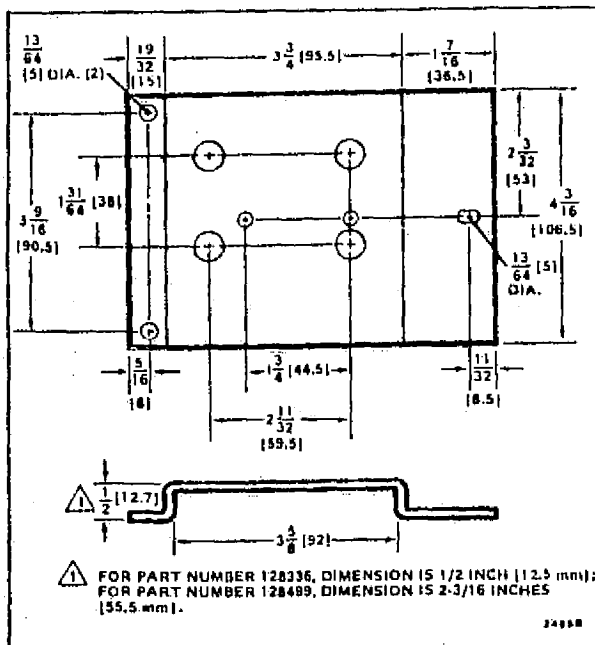

FIG. 2-DIMENSIONS OF 128336 AND 128499 BRACKETS, IN INCHES [MILLIMETERS SHOWN IN BRACKETS].
1. 16254AC Bag Assembly-mounting bracket, Part No. 128499, and screws (see Figs. 2 and 6).
5. 7640JN Bag Assembly-mounting bracket, Part No. 128336, and screws (Figs. 2 and 6).
Locate as near as possible to the equipment to be controlled. Mounting brackets and bag assemblies for direct drive and crank arm drive are furnished with Tradeline models of these motors or may be ordered separately if required for the installation. Refer to the Accessories section for specifications, Figs. 2 and 3 for dimensions, and Figs. 4-7 for installation drawings.